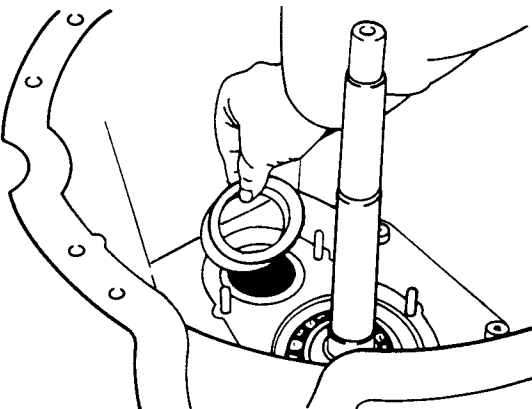

Fig H1.44
- (8) Refer to Fig H1.44. Calculate the thickness of washers required according to the measurement obtained in step (7) plus 0,10 mm. This is the load the bearing must have.
- (9) Fit the cover assembly, shafts and selector forks (see Sub-sub-section H1.3, Chapter 4).
- (10) Fit the bearing washers of the primary shaft, which were removed before, and those of the front bearing of the layshaft which were calculated in step (8).
- (11) Fit to the new casing the register plate of the old casing.
- (12) Fit the clutch withdrawal mechanism (see Sub-sub-section H1.3, Chapter 5).
- (13) Fit the complete gearbox assembly to the vehicle (see Sub-sub-section H1.3, Chapter 1).
- (14) Fill the gearbox assembly with oil.